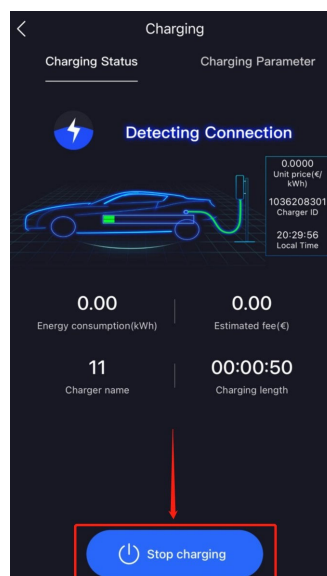

Figure 5-14: Stop charging interface
1. Open "Star Charge" APP and click the "Stop charging" icon, as shown in Figure 5-14. If successful, the status light will turn green to free mode and the charging process will stop. If the electric vehicle has been fully charged, the charger will automatically stop.